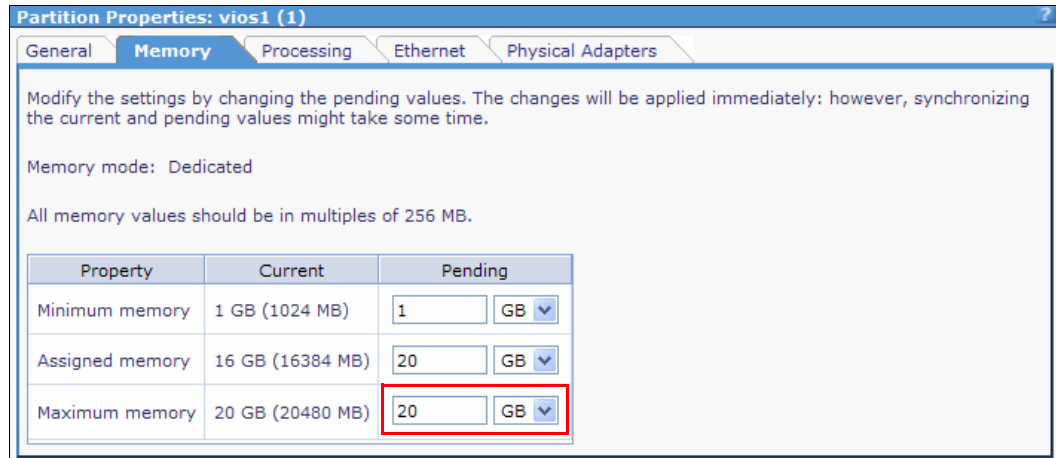

Figure 4-63 Partition Properties: Virtual I/O Server; Memory tab; increase memory size
4. Modify the pending values as needed. In Figure 4-63, the assigned memory is increased by 4 GB. Click **OK**.